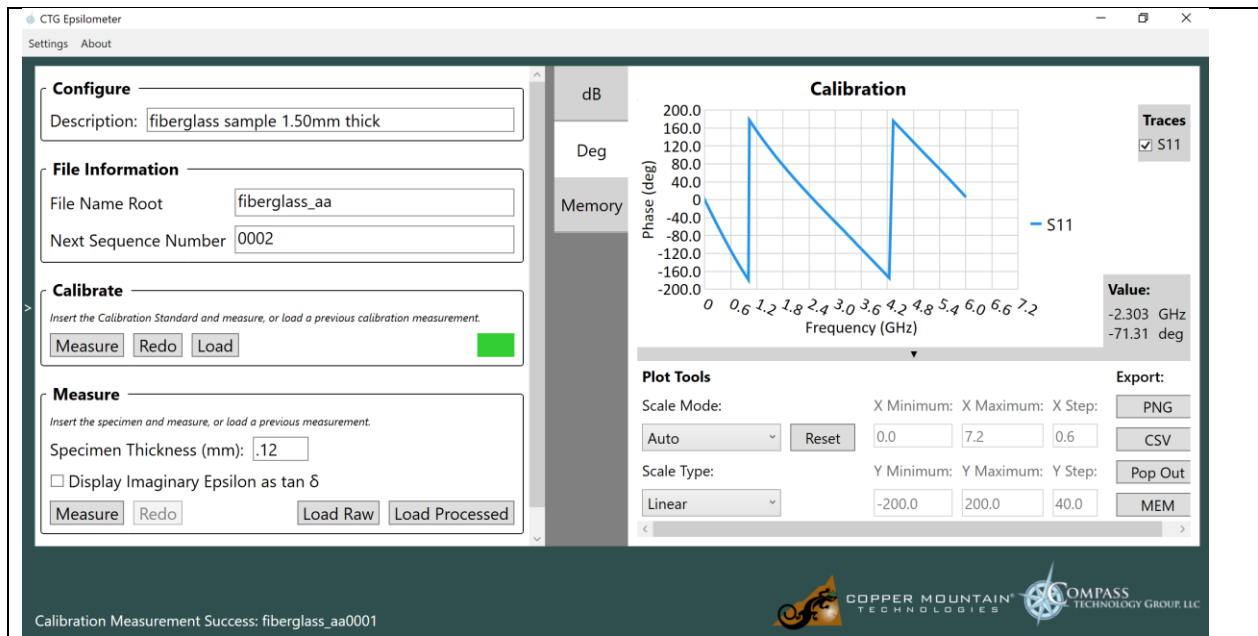

Figure 11. Calibration Success (Deg Tab)
5. Click "Measure" in the "Calibrate" Group Box. Notice the box turned from red to green. (Figure 11). (Appendix 1.3 for more detail). Make sure the plot appears and the tab on the left is "Deg." The plot should look similar to the right side of Figure 11. The Teflon calibration specimen may now be removed.